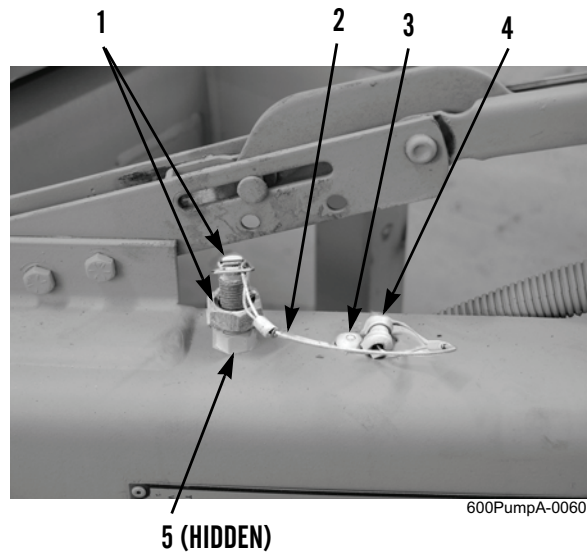

Figure 2. Ground Terminal Stud.
1. Secure lanyard (Figure 2, Item 2) to trailer frame with clamp (Figure 2, Item 4) and new rivet (Figure 2, Item 3).
2. Install ground terminal stud (Figure 2, Item 1) on trailer frame with nut (Figure 2, Item 5).